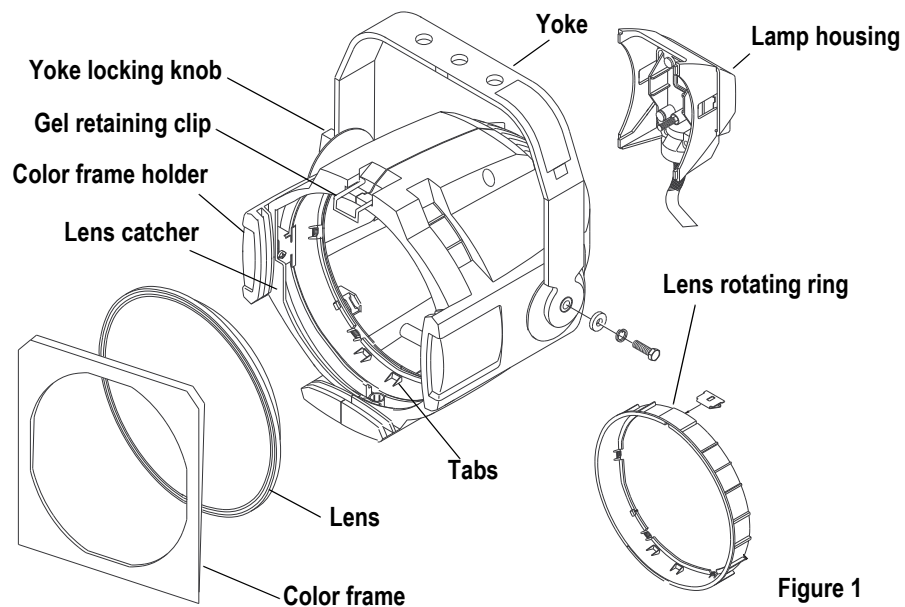

Figure 1
Step 2: Position the lens rotation ring with the spring clip at the top of the unit, directly below the gel retaining clip. See Figure 1.